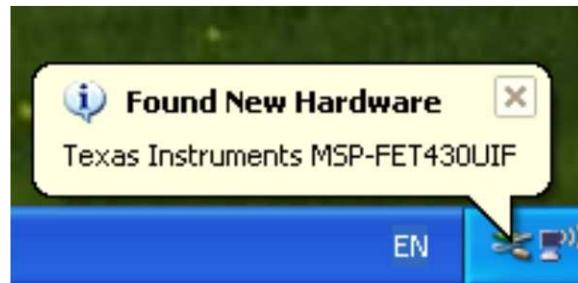

Figure B-8. eZ430-RF Windows Driver Installation
3. Windows should now recognize the new hardware as an "MSP430 XXX x.xx.xx" (see Figure B-8). The device name may be different from the one shown here.